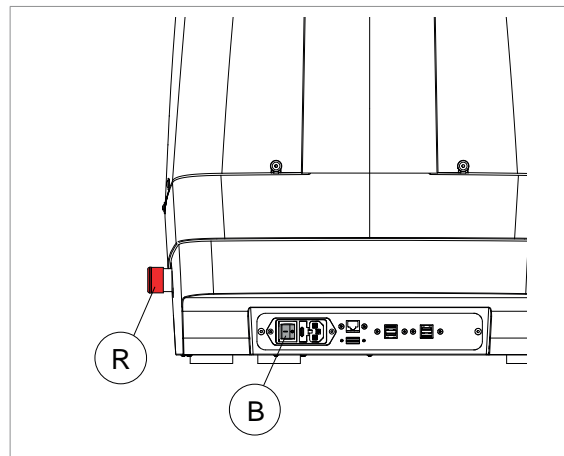

Fig. 6
**ATTENTION: turn off the master switch (B) on the back of the machine (Fig. 6) and unplug before carrying out maintenance operations.**